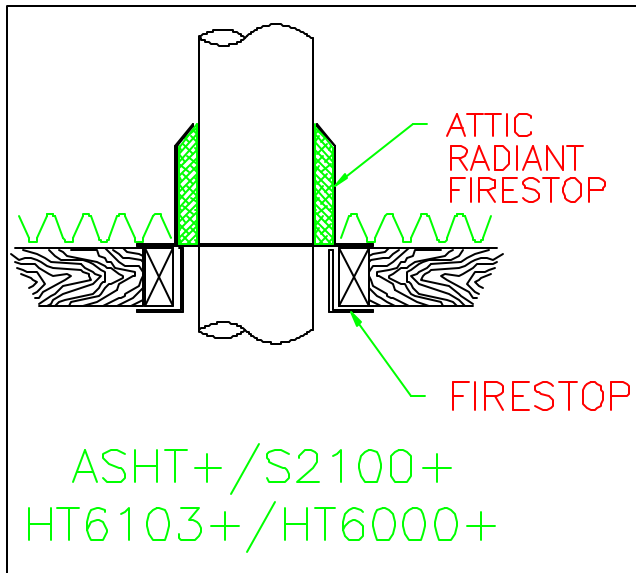

Figure 14a
From below, install a firestop in each ceiling/floor separation through which the chimney will pass. At the attic level, install an attic radiation shield from above (see Figures 14a & 14b).
3. Use another elbow to turn the chimney vertically. Secure the elbow, using three (3) 1/2" (12 mm) screws.
5. From below, install a radiation shield (see Figure 14a).